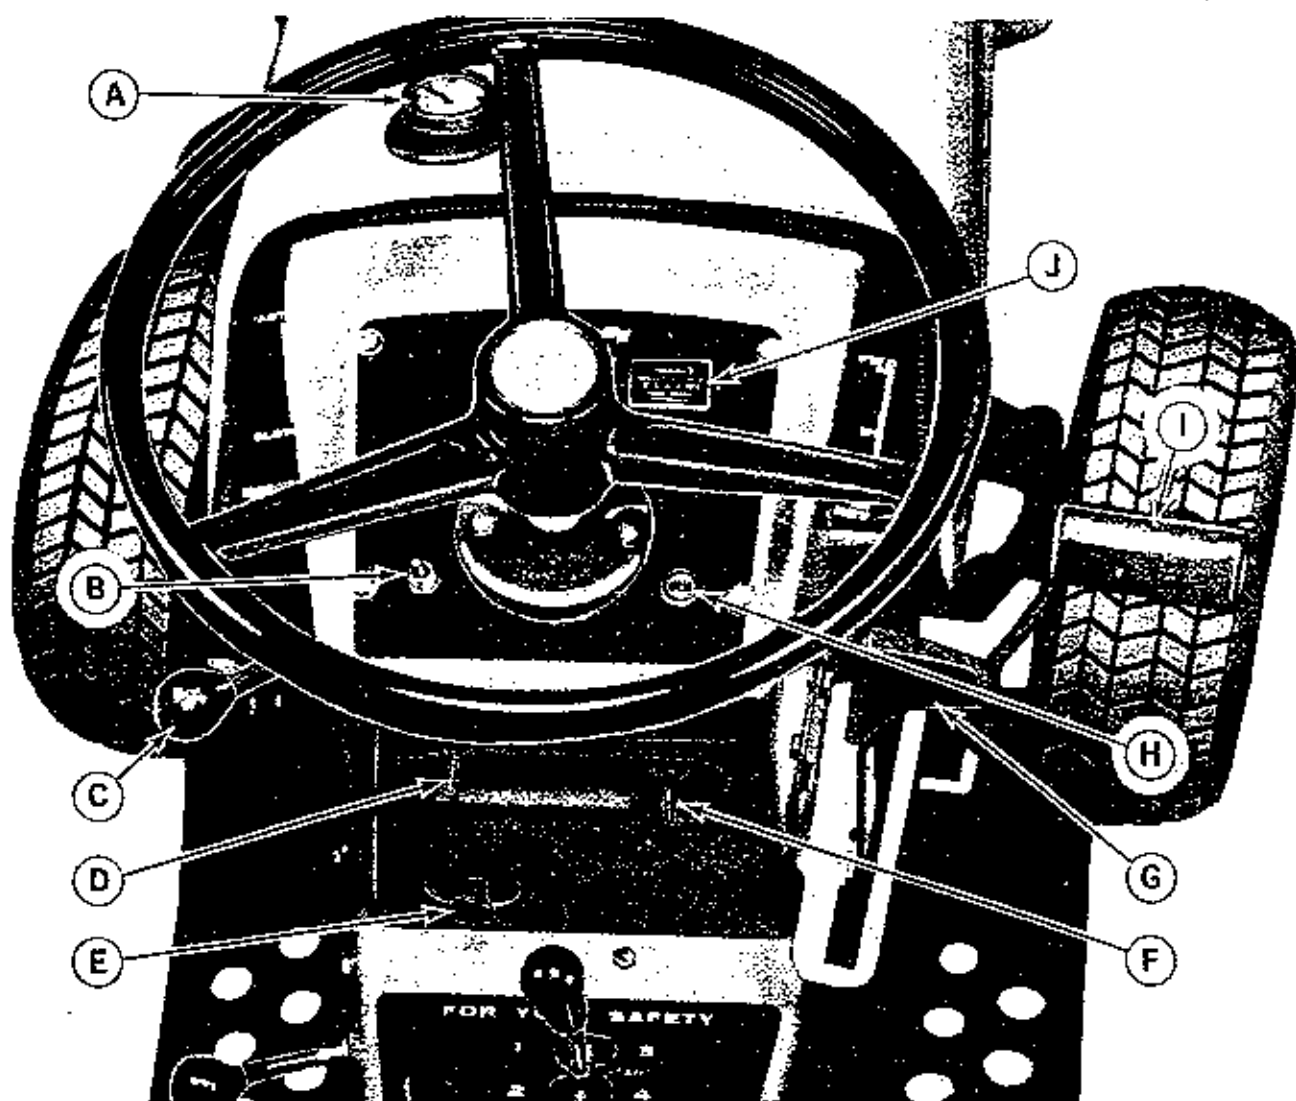

Figure 1. Tractor instrument panel as seen from the operators position on tractor seat.
Picture yourself seated on your Landlord or Sovereign tractor. Before starting the engine, lets learn how to understand and use the instruments and controls. The paragraphs referring to the instruments and controls are illustrated in figures 1 through 4.
**IGNITION SWITCH:** (Figure 1, item F) To actuate the ignition switch first insert the ignition key as shown. When the key is turned clockwise to the first position, the ignition is ON. In the ON position the lights, hourmeter, etc. will operate. Turn the key clockwise past the ON position to the START position to actuate the starter. THE TRANSMISSION SHIFT LEVER MUST BE IN THE NEUTRAL POSITION AND THE POWER TAKE OFF CLUTCH CONTROL LEVER (S) MUST BE IN THE DISENGAGED POSITION BEFORE THE STARTER WILL ACTUATE. Release the
**CHOKE CONTROL KNOB:** (Figure 1, item E) The choke control knob may be pulled out to increase the amount of fuel entering the engine for starting and cold weather warmup. When starting a cold engine in cold weather pull the choke all the way out. Some choke may be required to start the engine when the air temperature is above 70 degrees F or while the engine is still warm from being recently run. After the engine has started, push the choke in slowly. In cold weather it may be necessary to leave the choke pulled out slightly for three or four minutes while the engine warms up. **NEVER OPERATE THE ENGINE WITH THE CHOKE OUT AFTER IT HAS HAD SUFFICIENT TIME TO**
**GENERATOR WARNING LIGHT:** (Figure 1, item H) The generator light will warn you if the generator or voltage regulator on your tractor is not functioning properly. It is normal for the generator light to come on when the ignition switch is in the ON position and the engine is stopped or running at low speed. The light should go out when the engine is running at higher speeds. If it does not the generator or voltage regulator is not functioning properly. Check the generator belt adjustment as described on page 13. See your Simplicity dealer if the light will not go out after the belt is adjusted.
**HOURLMETER: (OPTIONAL)** (Figure 1, item J) The hourmeter is useful in keeping accurate maintenance records and telling how much time the tractor has been used on a particular job. It operates anytime the ignition is turned on whether the engine is running or not.
**FUEL GAUGE AND FILLER CAP:** (Figure 1, item A) The fuel gauge indicates fuel level. **BEFORE ADDING FUEL, SHUT OFF THE ENGINE AND ALLOW IT TO COOL SEVERAL MINUTES.** Turn the cap counterclockwise to remove it and add fuel. The 3 gallon capacity provides about 3 hours of mowing. Use leaded or non-leaded **REGULAR** grade automotive gasoline. **CAUTION: DO NOT ALLOW LIGHTED CIGARETTES, MATCHES, ETC., AROUND ANY OPEN GASOLINE CONTAINER. DO NOT OVERFILL; WIPE UP ANY SPILLED GASOLINE.**
**LIGHT SWITCH:** (Standard equipment on Sovereign; Optional on Landlord) (Figure 1, item D) The switch should be moved up to the ON position to turn on the tractor lights. To prevent the lights from being turned on by unauthorized persons, the ignition switch must also be in the ON position for the lights to operate. To turn the lights off, push the light switch down to the OFF position. **DO NOT OPERATE THE LIGHTS FOR LONG PERIODS OF TIME (MORE THAN 20 MINUTES) WHEN THE GENERATOR LIGHT IS ON OR THE BATTERY MAY DISCHARGE ENOUGH SO IT WILL NOT START THE ENGINE.**
**POWER LIFT SWITCH: (OPTIONAL)** (Figure 1, item B) The power lift switch controls the electrically operated power lift unit. Push the toggle switch forward to raise a front, center or rear mounted attachment. Pull it back toward you to lower the attachments. The power lift will stop and hold in any position when you release the toggle switch. The height indicator (Figure 6, item A) on the left side of the tractor shows attachment position. The lift motor will ratchet when it has reached the end of its travel. Ratcheting is not harmful to the unit, but releasing the toggle switch as soon as ratcheting begins will prevent unnecessary wear. If the motor is allowed to ratchet for an extended period of time, a circuit breaker will open, disconnecting power to the lift motor. It will automatically reset after about a minute.
**CLUTCH AND BRAKE PEDAL:** (Figure 1, item I) Depressing the pedal will first disengage the tractor drive clutch. As you continue to depress the pedal, the brakes will
be applied to stop the tractor. The clutch-brake pedal may be depressed for shifting transmission gears, but it is not necessary if the shuttle drive control lever (Figure 1, item G) is in the neutral position.
**SHUTTLE DRIVE CONTROL LEVER** (Figure 1, item G) The position of this lever determines whether the tractor moves forward or reverse or remains stationary. It can also be used for short periods of time to reduce tractor travel speed in either forward or reverse, or used to stop tractor travel by pulling it toward the opposite position.
Although the tractor may be shifted into or out of any gear by depressing the clutch-brake pedal, it may be shifted more rapidly by placing the shuttling control lever in the center **NEUTRAL** position as shown in figure 1. The brake which is automatically applied when this lever is in neutral, stops "spinning" of the transmission input shaft to facilitate shifting.
**SPEED CONTROL LEVER:** (Figure 1, item C) The engine speed control lever is used to set the desired engine speed. The speed control lever should be moved forward away from the operator to increase engine speed or back toward the operator to reduce engine speed. Consult the appropriate section of this manual for specific information on suggested settings of the engine speed control lever. For example: starting the engine, page 5. Controlling tractor ground speed page 5, and the Operation Chart on page 7.